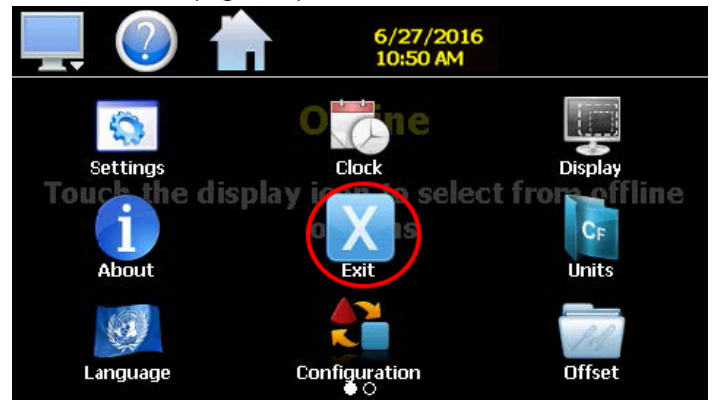

Fig. 118: Exit Icon
1. Select HOME - MONITOR - (swipe screen) SETTINGS - MONITOR - OFFLINE - Select YES - MONITOR - EXIT icons (Fig. 118).
1. Press the EXIT icon (Fig. 118) under the OFFLINE setup menu.